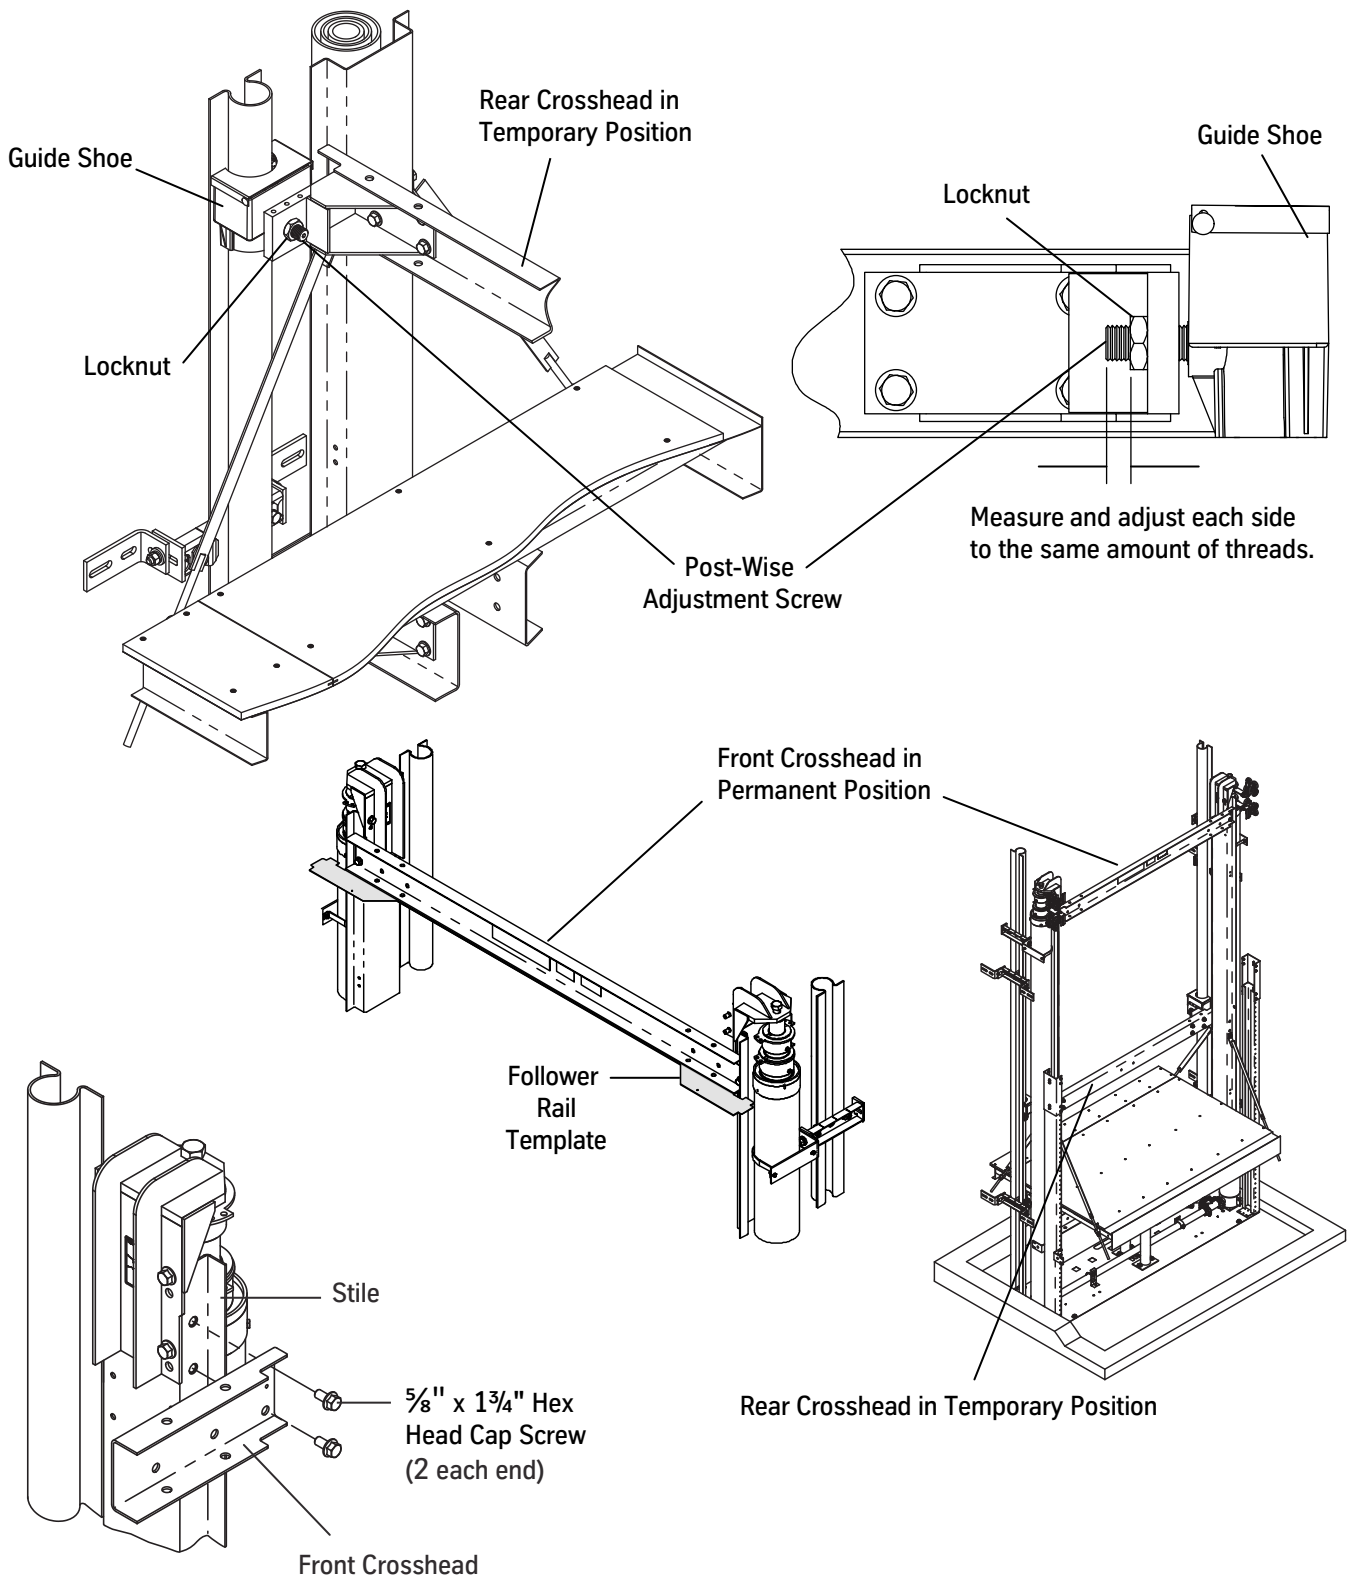

Figure 36 - Install Upper Guide Shoes and Crosshead
1. Fasten the two upper guide shoes to the shoe mount bracket on the rear crosshead channel. See Figure 36 on page 63 for all steps in this procedure.